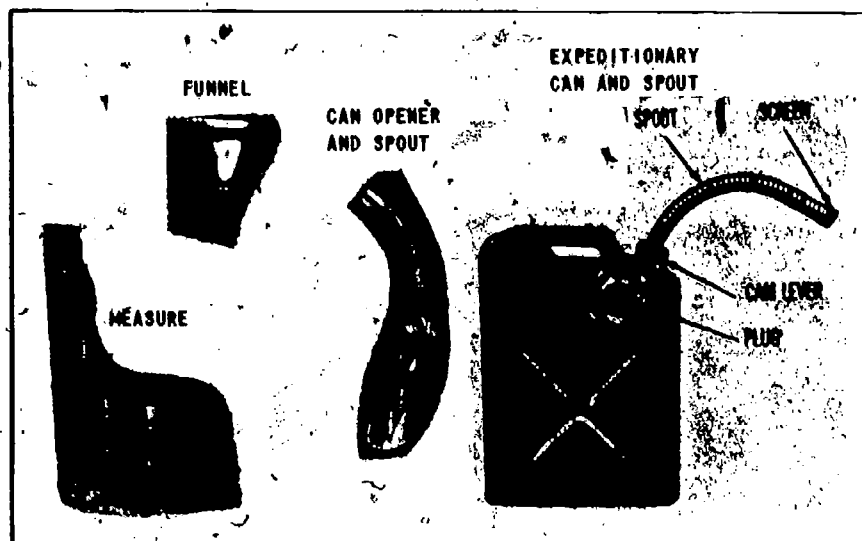

Fig 1-2. Measuring cans and spouts.
- (2) Measuring cans and spouts (fig 1-2). Oil, water, and fuel should be measured. Although many units operate from estimated quantities, there is space on equipment records for the amount of oil and fuel used. Many gallons of fuel and oil are wasted and many hours are consumed by personnel guessing the amount needed. For example, you will draw too much or too little oil into a 5 gallon container to fill an engine crankcase that requires only 1 gallon. The excess oil will be wasted because it will be contaminated before it